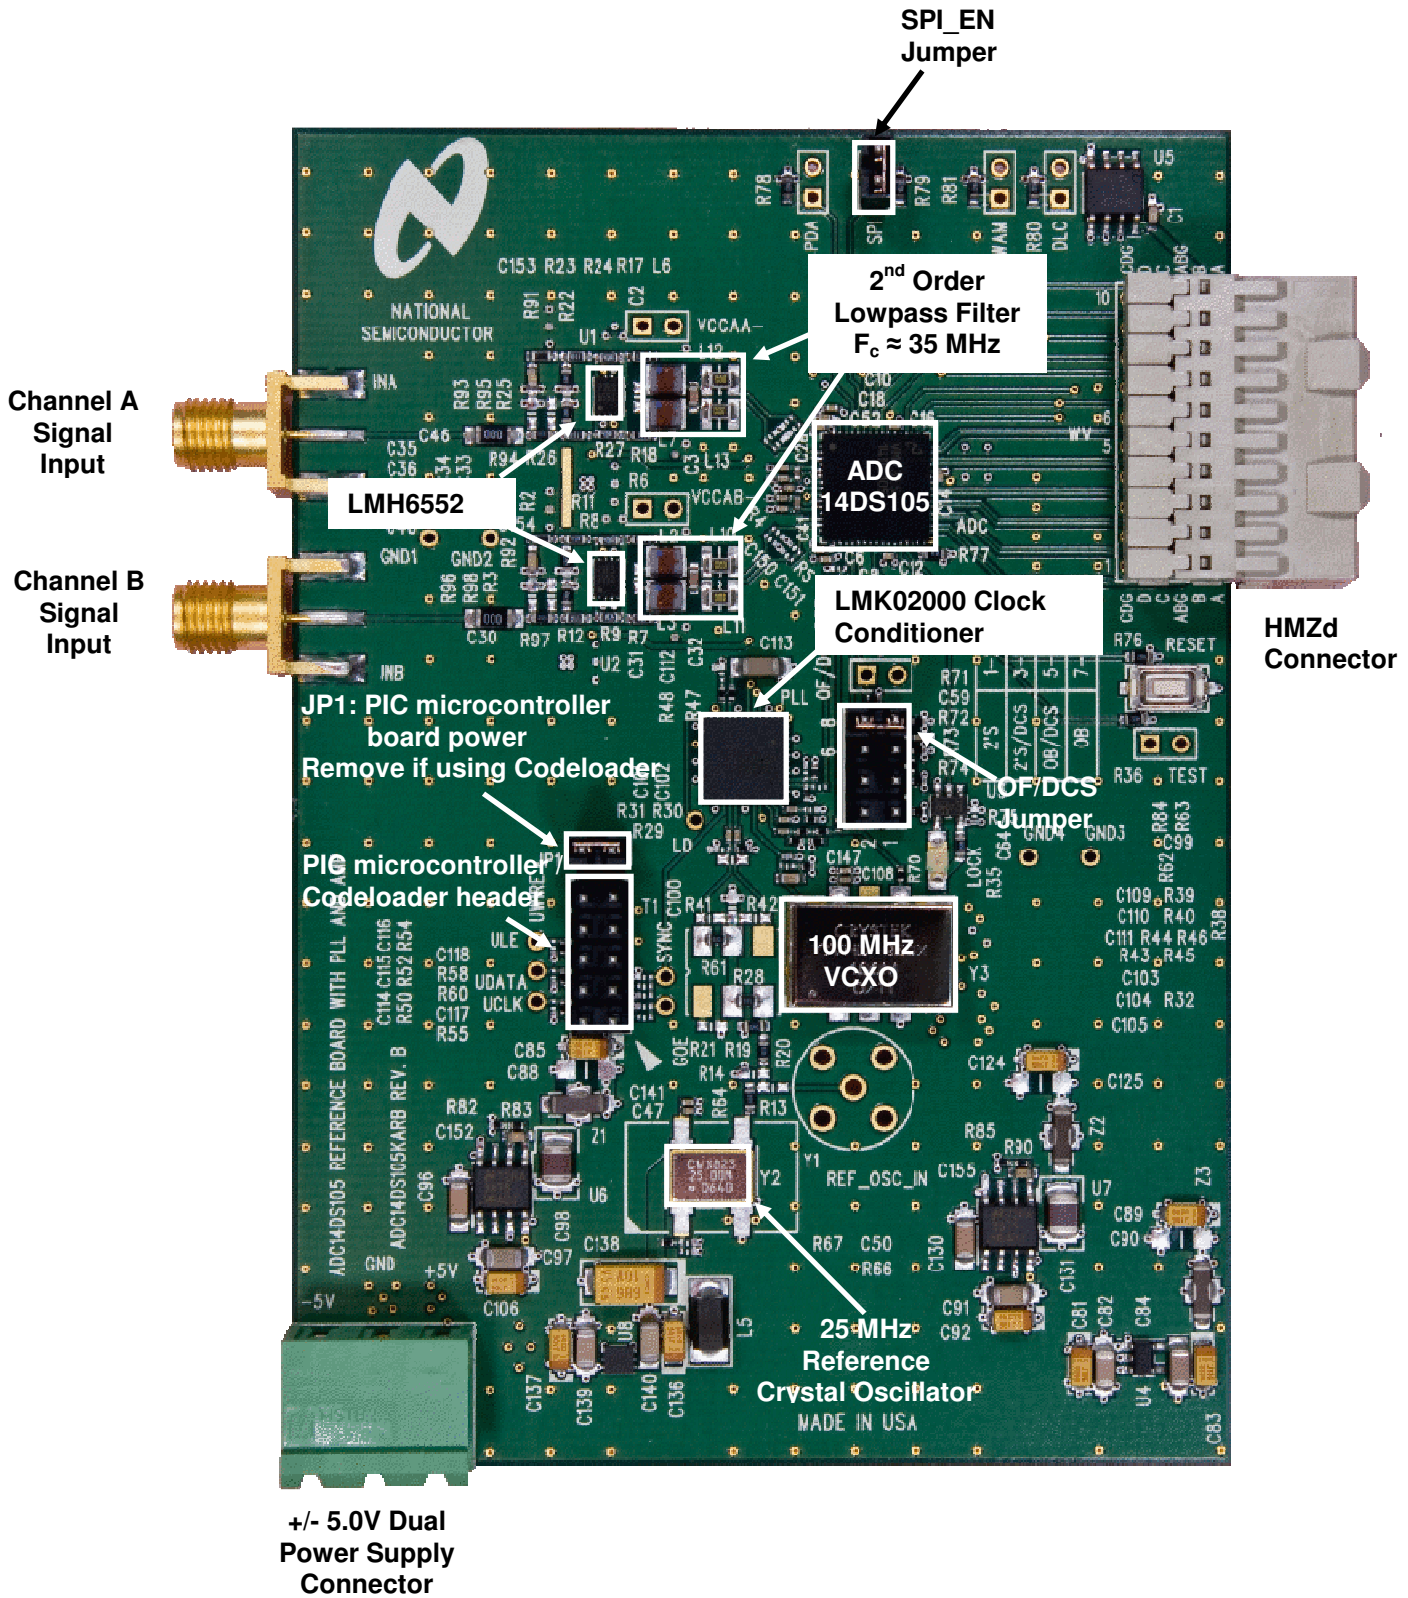
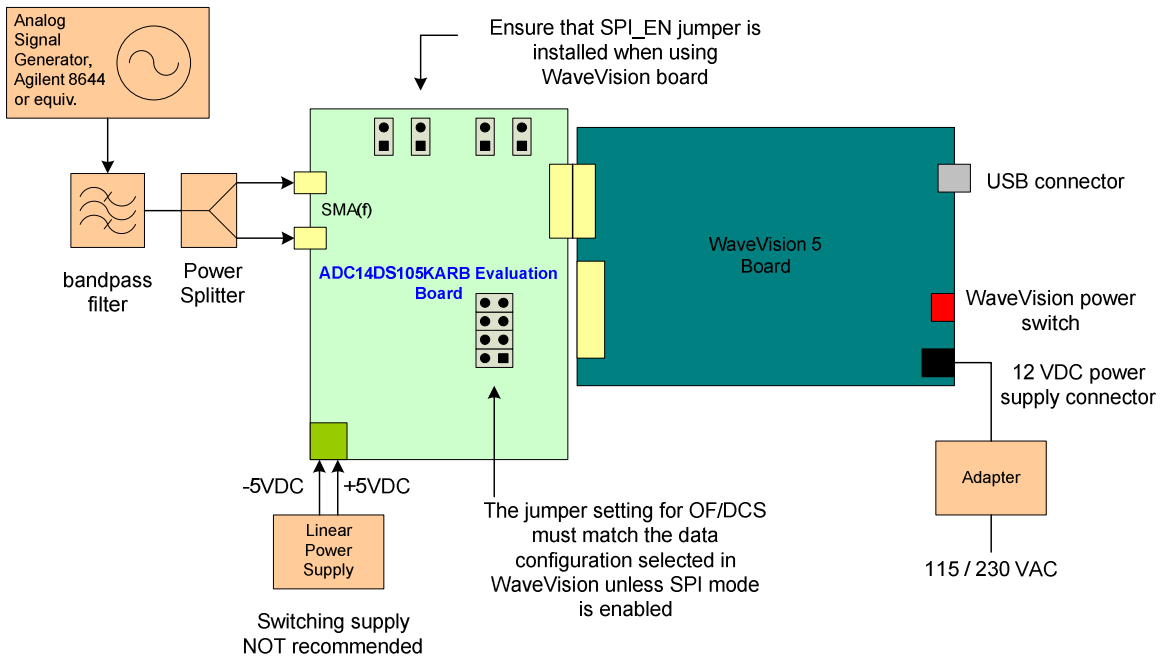

Figure 1. ADC14DS105KARB Component, Connector and Jumper Locations
Figure 4. Connection Diagram for ADC14DS105KARB and WaveVision 5.1 Data Capture Hardware
If the SPI\_EN jumper is not in place, then the ADC14DS105 is under pin control, and the ADC14DS105KARB board jumpers should be configured as follows. Please refer to Figure 1 for the exact jumper locations.
1. Connect the ADC14DS105KARB reference board to the WaveVision 5.1 board through the FutureBus connector as shown in Figure 4. The ADC14DS105KARB reference board should not be powered up, as the WaveVision hardware does not support hot-swapping of boards.
5. The single-ended analog signal inputs are provided by board-edge SMA(f) connectors labeled “INA” and “INB”. The input impedances are 50 ohms. The maximum amplitude (Vp-p) for satisfactory performance is 1 Vp-p. The inputs are DC-coupled but the input signal may be either DC or AC coupled. If DC coupled, the DC level of the signal should not exceed 1.2 V. The DC level is set on the ADC14DS105KARB reference board. Connect the signal source through the SMA connector as shown in Figure 1 and Figure 4. Recommended signal generators are the HP8644B (HP/Agilent) or the SMA100A (Rohde & Schwarz). A bandpass filter between the signal generator output and the ADC14DS105KARB SMA connector is required to measure the true performance of the board. See Figure 4.
SFDR), a low noise signal generator such as the HP8644B (HP/Agilent) or SMA100A (Rohde & Schwarz) is recommended to drive the signal inputs of the evaluation board. The output of the signal generator should be bandpass filtered to suppress any harmonic distortion produced by the signal generator and to allow accurate measurement of the noise and distortion performance. See Figure 4. The low pass filter ( $F_c \approx 35$  MHz) following the LMH6552 will further improve the noise performance of the ADC by filtering the broadband noise of the signal generator.